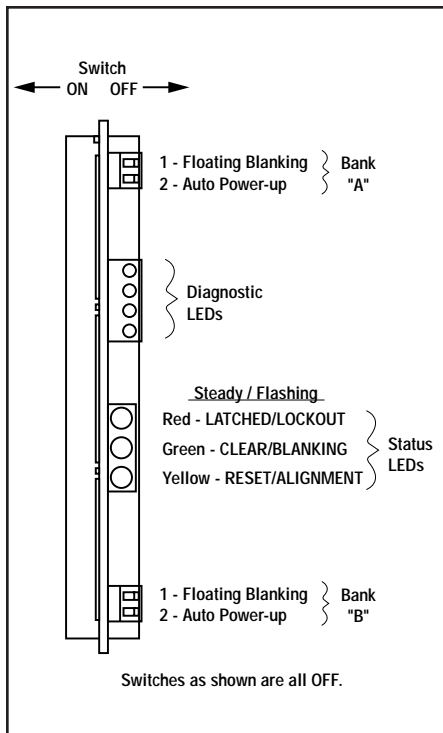

Figure 18. Controller module configuration DIP switches and indicators
The MINI-SCREEN controller module must be configured *before* initial checkout and use. Controller configuration is done at the row of DIP switches along the edge of the controller module (Figure 18). The controller will automatically sense the length of the emitter and receiver, and set its response time accordingly.
**Power to the MINI-SCREEN System must always be OFF when changing DIP switch settings.** Changing DIP switch settings with power ON will cause a lockout condition. A switch pushed to the left (with controller module oriented as shown in Figure 18) is ON; a switch pushed to the right is OFF. Set the configuration switches as follows:
Locate the Auto Power-up (AP) configuration switch (switch #2) in bank A. If Auto Power-up is ON (see Figure 18) when power is applied to the MINI-SCREEN System, the controller will automatically reset after conducting and passing an internal system checkout. If the switch is OFF, this initial reset is manual (via the Key Reset switch on the front panel). Regardless of the setting of this switch, a Key Reset is always necessary to recover from an internal lockout condition. To select Auto Power-up, remove the protective coating on switch #2 and push the switch to the ON position. The corresponding switches at banks A and B must be set identically.